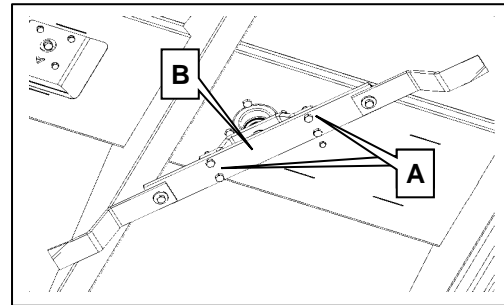
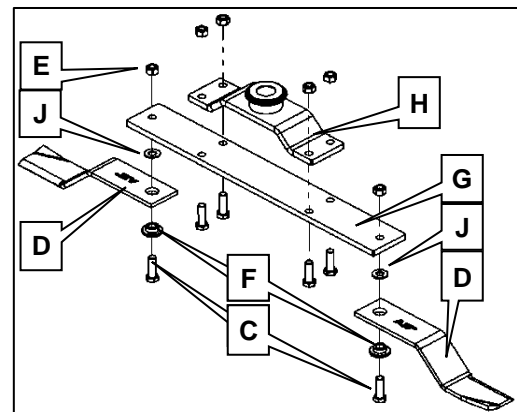

Figure 8.6
Figure 8.7
Lift and support the machine on safety supports. With assistance, support the blade carrier assembly, remove the split pin (K) and rotor castle nut (J) in Figure 8.6. and remove the whole blade carrier assembly from the splined gearbox output shaft through (B), see Figure 8.6.
If necessary, the blade bar (G) in Figure 8.7 may be removed and replaced without upsetting the driveline timing. Undo four fasteners (A) in Figure 8.6. The blade bar with blades attached can be removed.
To Remove: Unfasten blade bolt (C), locknut (E), flat washer (J) in Figure 8.7 and discard. Dismantle the blade (D) and blade bush (F).